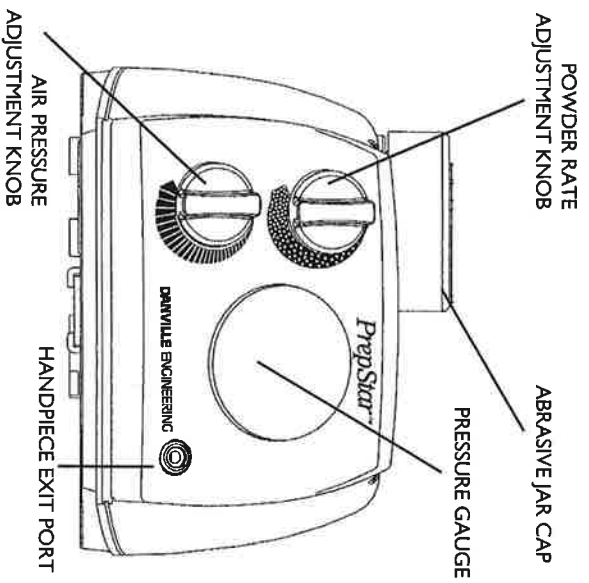

Figure 4.1
1.8 ABRASIVE SETTINGS (See Fig. 4.1)
- B. Abrasive jar:** Clean threads and o-rings. Lightly lubricate o-rings with petroleum gel (see Fig. 4.1).